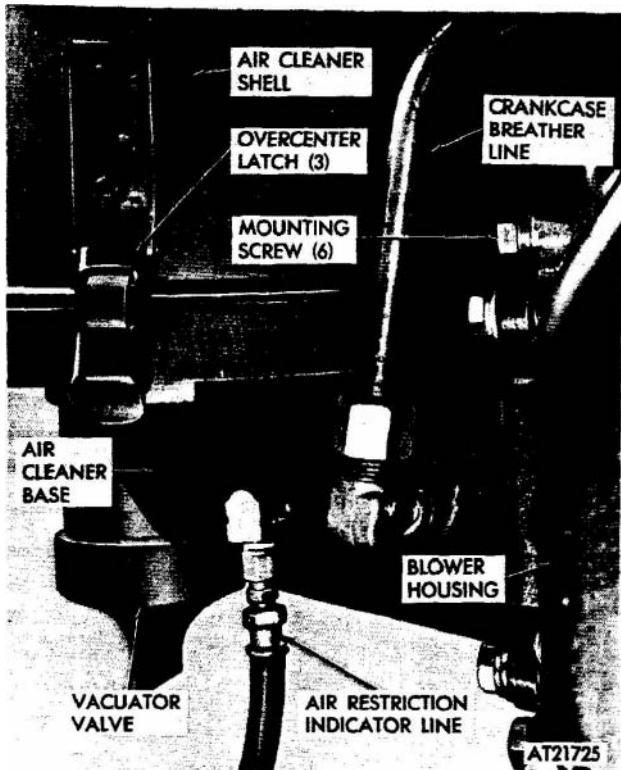

Figure 2-71. Air cleaner and blower housing
(29) Remove air cleaner shell and element by releasing over-center latches. Lift shell and element off air cleaner base (fig 2-71).
(1) Position blower screen over blower intake and insert top center screw. Do not tighten screw at this time.
(2) Position air cleaner base over blower screen and align slot in base with top center screw. Secure by installing five screws, lock washers, and washers; tighten all six screws (fig 2-71).
(3) Connect crankcase breather and air restriction indicator line fittings to air cleaner base.
(4) Position air cleaner shell and element to air